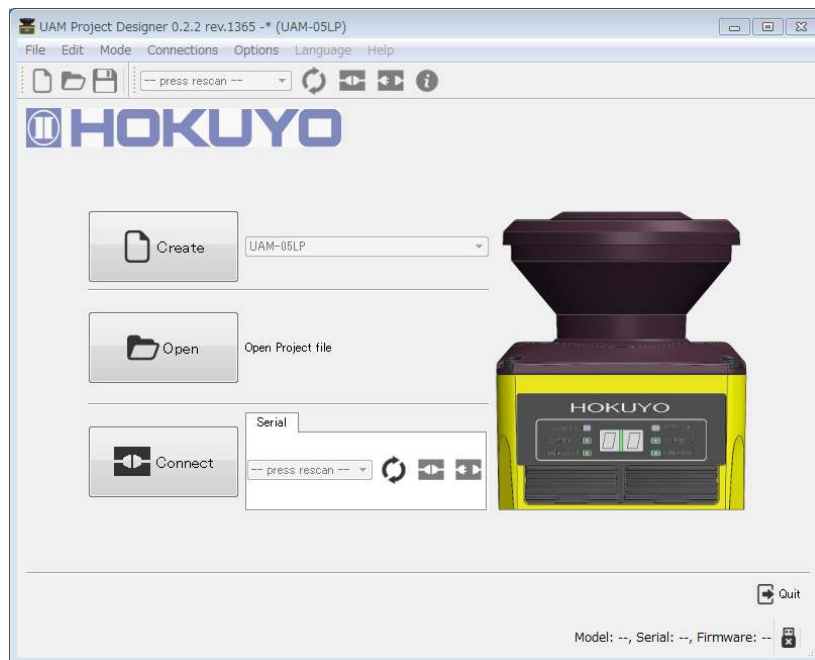

Figure 7-17 Main window
- Main window as shown in figure 7-17 will be displayed when UAM project designer starts.